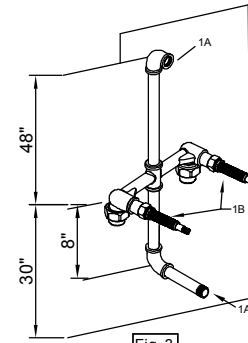

Fig.3
- 3 Recommended component locations: (see Fig. 3)